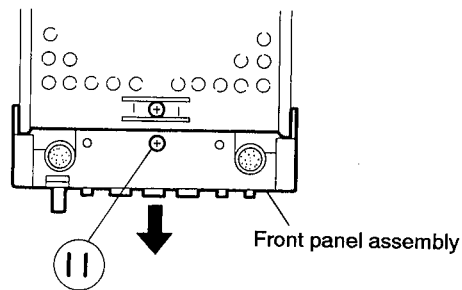

Fig. 5-15
**Removing the front panel** (See Figs. 5-15 ~ 5-17)
1. After turning over the body, remove the one screw ⑪ retaining the door holder from the front panel (See Fig. 5-15).